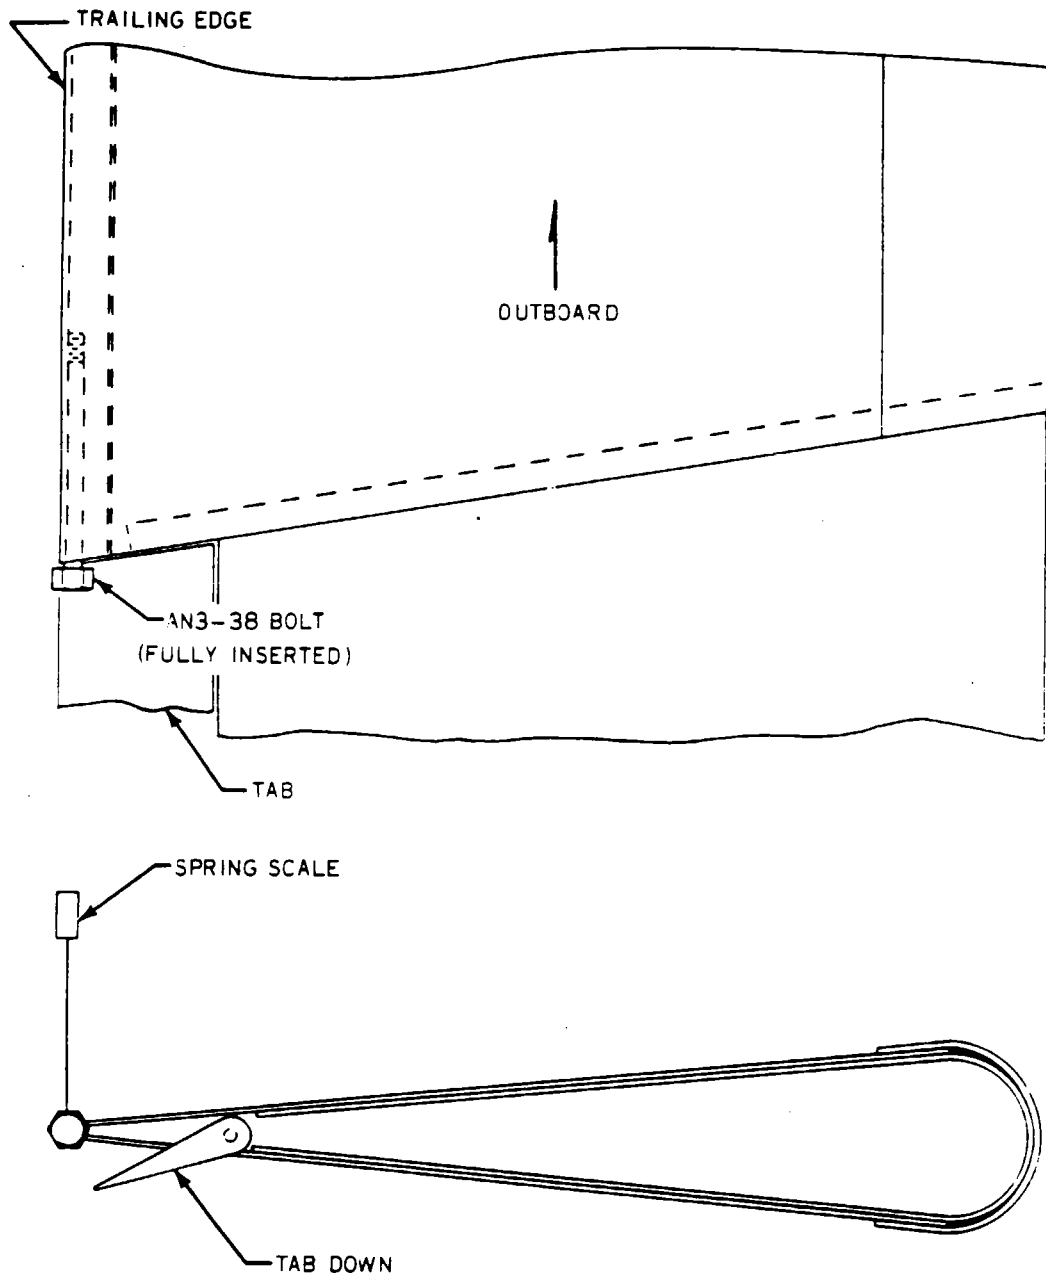

Figure 55-3. Friction Measurement
1. Attach a spring scale to the inboard trailing edge of the elevator as shown in Figure 55-3.